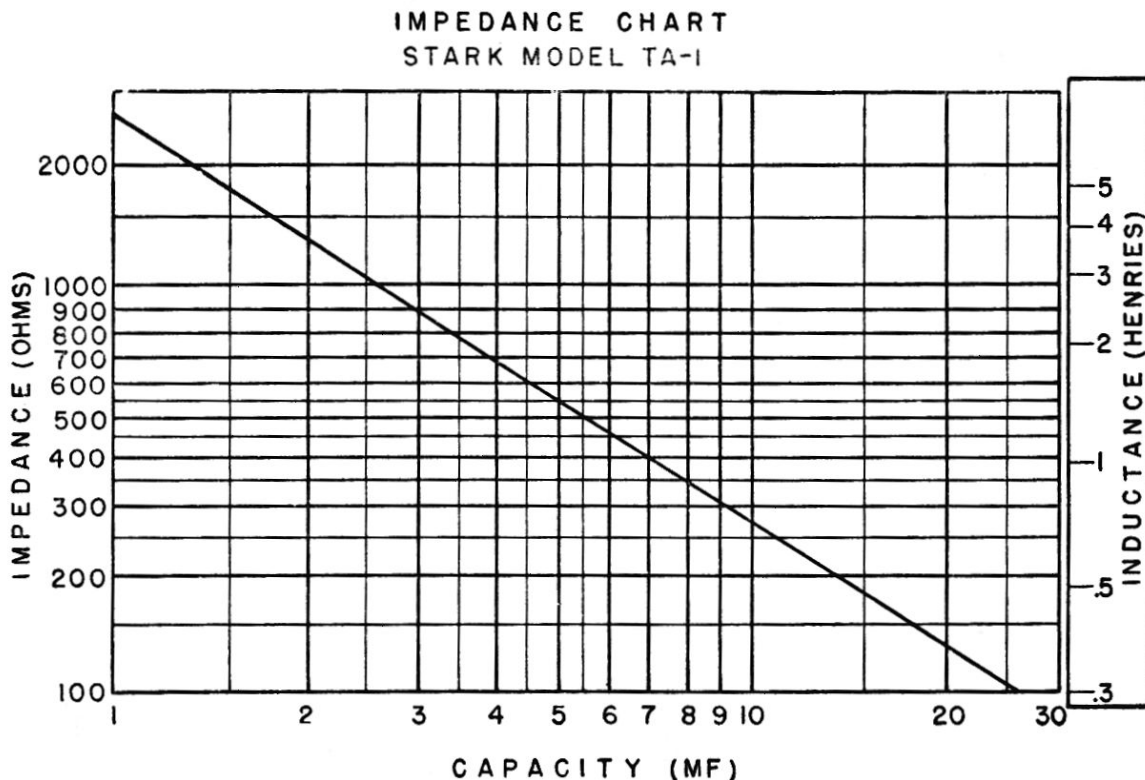
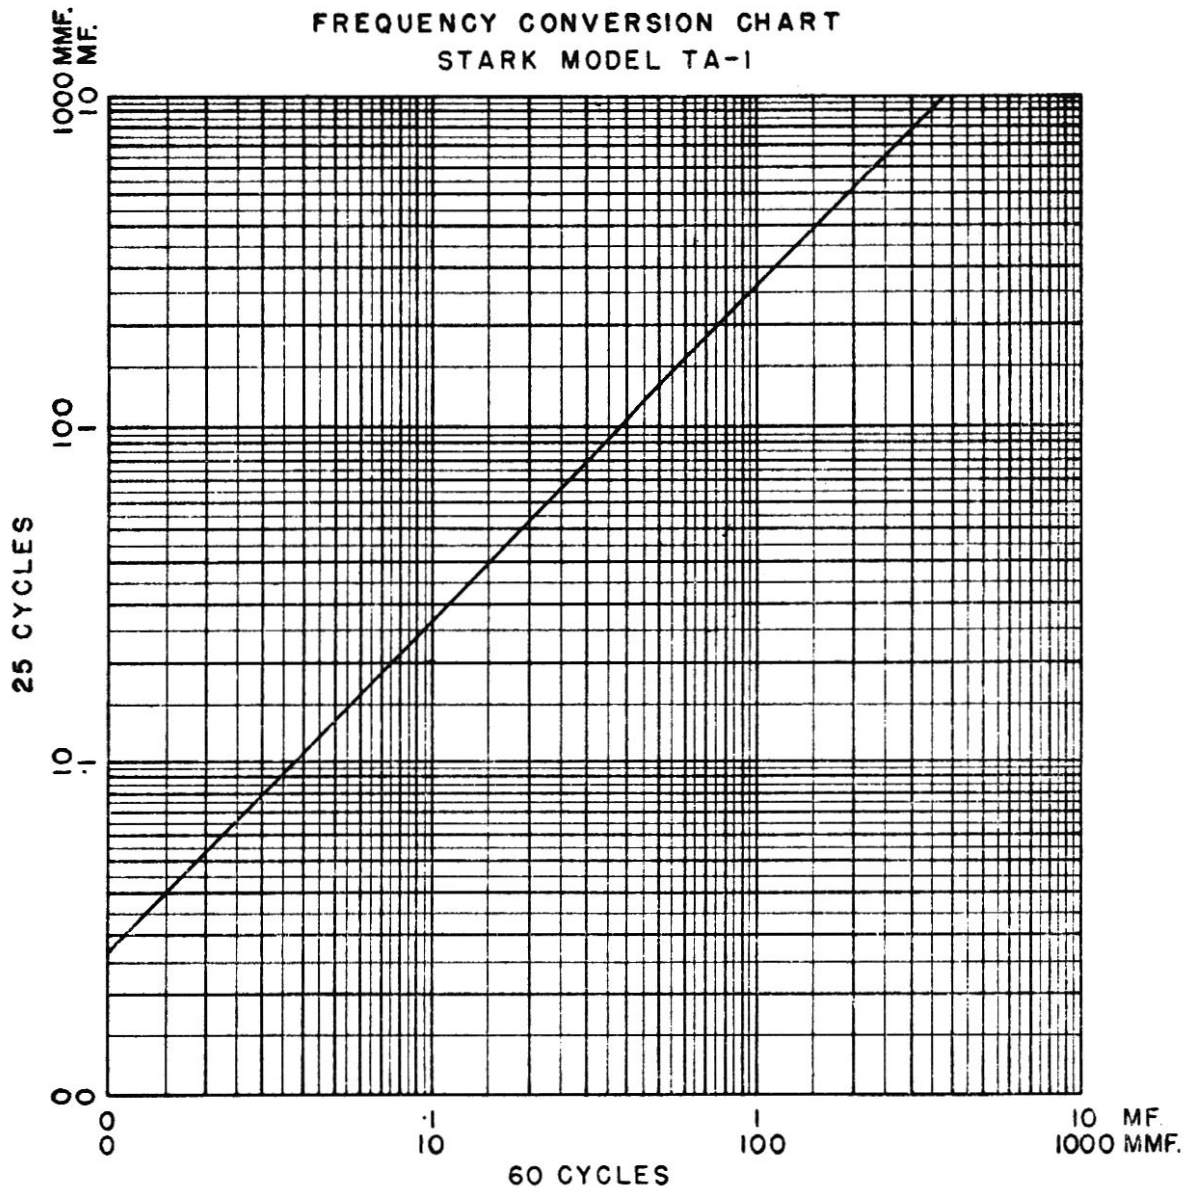

FIGURE 7
FIGURE 8
The scale is calibrated directly for capacity readings with the frequency of the input supply at 50-60 cycles per second. Since the readings are dependent upon the frequency of the power supply a conversion chart is supplied for 25 cycle operation, Fig. 8.
(b) Inductance measurement theory is exactly the same as capacity measurements with the impedance of the coil replacing the impedance of the condenser. A chart is supplied (Fig. 7) relating capacity readings to impedances and also directly to henries if the resistance of the coil is low.
(2) The instrument has an internal capacity of 20 to 30 MMF, and when the Range Switch is on X1 or X10 MMF the meter will read this capacity. Therefore, always turn the Range switch to some position other than X10 or X1 MMF when making adjustments to zero with the OHMS-CAP ADJUST control, as this small internal capacity will have no effect at other positions. If it is necessary to make measurements on the X1 or X10 range, the true capacity will always be the difference between the reading obtained with the unknown capacity connected to the input and the initial reading obtained with no capacity connected.
(3) The capacity measurement circuit on the X1 and X10 MMF ranges is extremely sensitive and the test leads will pick up stray A.C. voltages. Therefore, the meter will read off scale in some cases when using these ranges, resulting in erratic readings. It is suggested, therefore, that the test capacitor be connected directly to the OHMS-CAP and GROUND pin jacks without using the test leads on these ranges.
- (f) The numerical value noted on the scale is multiplied by the multiplying factor governed by the position of the Range switch. For 25 cycle use, the conversion chart, Fig. 7, should be employed.
Follow the instructions outlined in paragraph 4.6, read the numerical capacity value and apply the multiplying factor. If the range is other than X1 MFD., values indicated in the graph Fig. 7 must be converted as it is drawn on a basis of microfarads. Any change in units must be made inversely on the impedance scale, i.e., if the reading is X1 MFD, multiply the impedance or inductance X10. The impedance value derived from the chart Z_L can be simplified to give true inductance values as follows:—
From chart, Fig. 8, the actual capacity is 8.8 MFD. Therefore, Z at 60 cycle = 300 ohms from chart, Fig. 7.